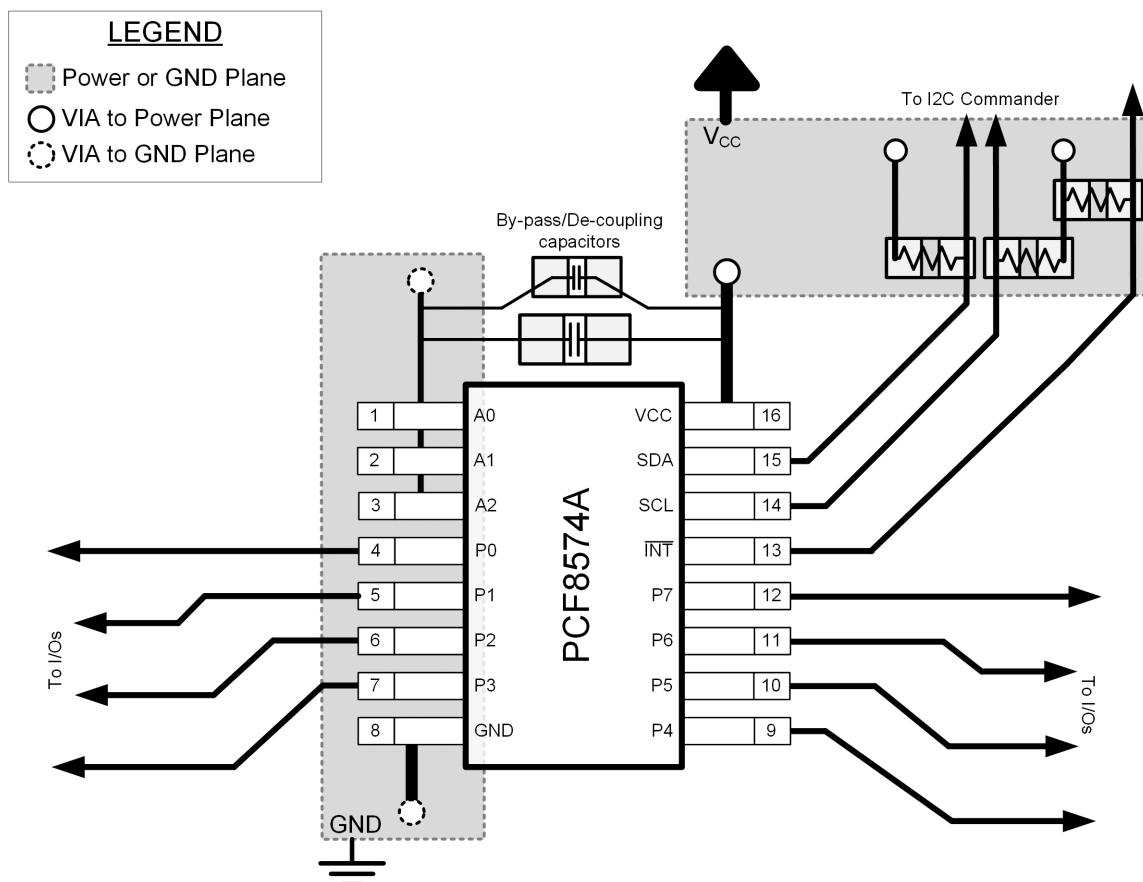

图 11-1. Layout Example for PCF8574A
When the I/Os are used to control LEDs, normally they are connected to V_{CC} through a resistor as shown in 图 11-1. For a P-port configured as an input, I_{CC} increases as V_I becomes lower than V_{CC} . The LED is a diode, with threshold voltage V_T , and when a P-port is configured as an input the LED will be off but V_I is a V_T drop below V_{CC} .
In all PCB layouts, it is a best practice to avoid right angles in signal traces, to fan out signal traces away from each other upon leaving the vicinity of an integrated circuit (IC), and to use thicker trace widths to carry higher amounts of current that commonly pass through power and ground traces. By-pass and de-coupling capacitors are commonly used to control the voltage on the V_{CC} pin, using a larger capacitor to provide additional power in the event of a short power supply glitch and a smaller capacitor to filter out high-frequency ripple. These capacitors should be placed as close to the PCF8574A device as possible. These best practices are shown in Figure 11-1.
For the layout example provided in Figure 11-1, it would be possible to fabricate a PCB with only 2 layers by using the top layer for signal routing and the bottom layer as a split plane for power (V_{CC}) and ground (GND). However, a 4 layer board is preferable for boards with higher density signal routing. On a 4 layer PCB, it is common to route signals on the top and bottom layer, dedicate one internal layer to a ground plane, and dedicate the other internal layer to a power plane. In a board layout using planes or split planes for power and ground, vias are placed directly next to the surface mount component pad which needs to attach to V_{CC} or GND and the via is connected electrically to the internal layer or the other side of the board. Vias are also used when a signal trace needs to be routed to the opposite side of the board, but this technique is not demonstrated in Figure 11-1.